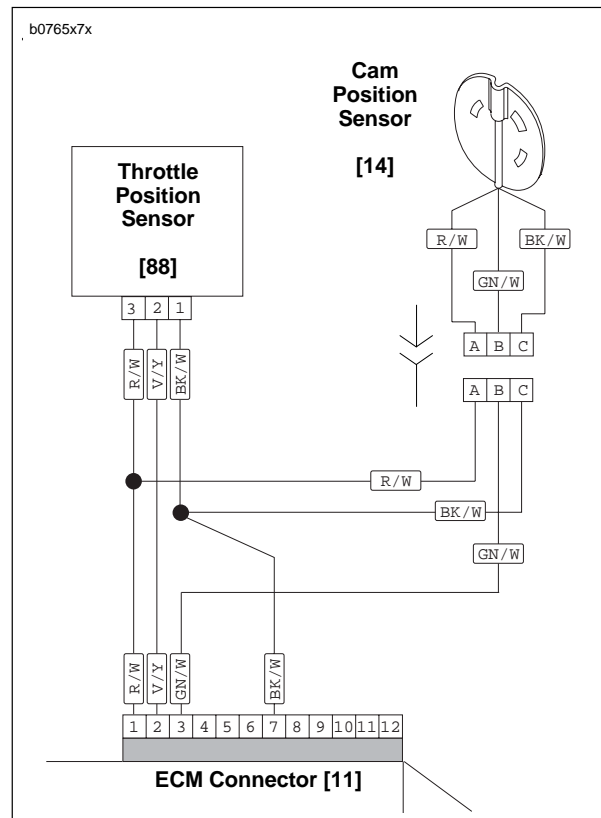

Figure 4-71. Connecting Sensor Wires
2. Install trigger rotor (17).
- a. Apply **LOCTITE THREADLOCKER 243** (blue) to threads of bolt (18).
- b. Position trigger rotor (17) onto end of camshaft aligning notch with camshaft slot.
3. Install cam position sensor (18) and timer plate studs (4). Rotate cam position sensor to its previously marked position to obtain approximate ignition timing.
5. See Figure 4-71. Install sensor wiring terminals into correct positions in plug end of connector [14]. R/W, GN/W and BK/W wires of plug end (from cam position sensor) must match same color wires in receptacle end of connector (from ignition module wiring harness). Install pin terminals. See B.2 DEUTSCH ELECTRICAL CONNECTORS.